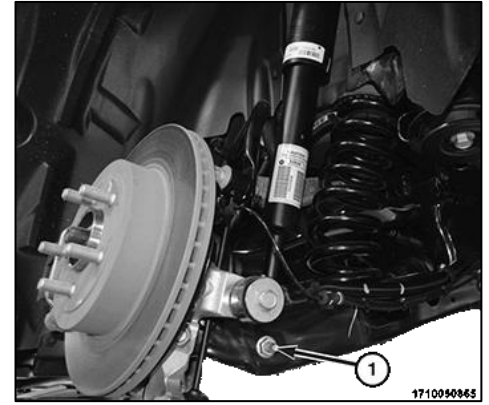

Figure 12
22. Remove the shock absorber (1) lower bolt (1) <Figure 12>.